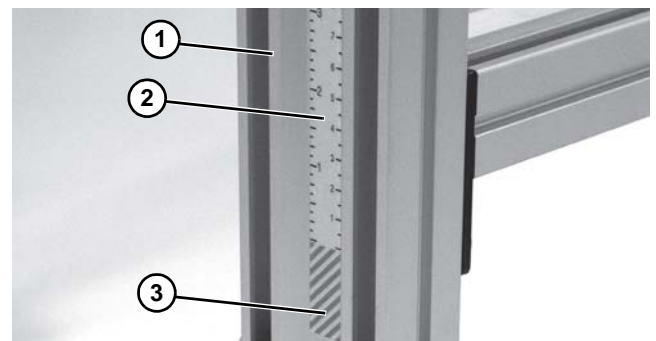
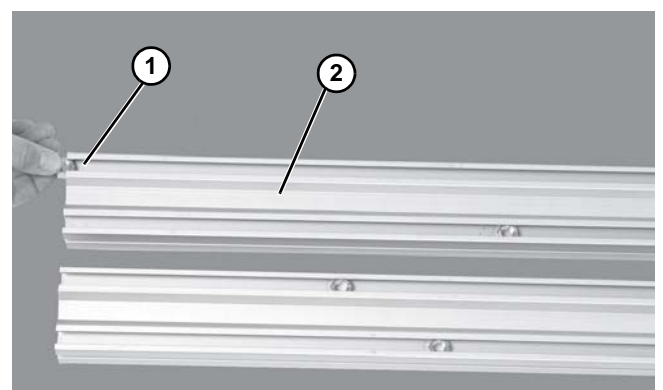
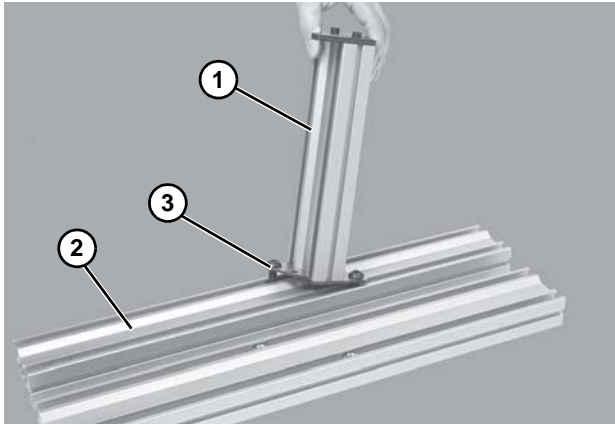

Figure 3
Figure 4
Figure 5
Stand legs (Figure 3, item 1) are equipped with a height sticker (Figure 3, item 2). Assemble stand legs with the sticker on the outside and the red warning area (Figure 3, item 3) at the bottom of the legs. Shown assembled. See steps 7 and 8 for boot assembly.
2. On the side opposite height sticker (Figure 3, item 2) install one (1) hex nut (Figure 4, item 1) into each inside stand leg (Figure 4, item 2) t-slot.
- Attach crossmember (Figure 5, item 1) to stand leg (Figure 5, item 2) with button screws (Figure 5, item 3). Do not tighten.
- Repeat step 4 for opposite stand leg. Make sure to locate the red warning area (Figure 3, item P) on the same ends of stand legs (Figure 5, item K).